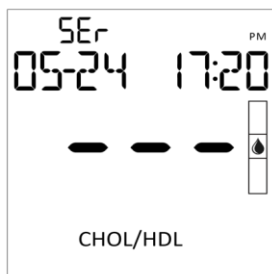

Fig 5.41
- The meter will begin testing automatically with three dashes in a line flashing on the LCD indicating the test is in progress. The test result will be displayed on the screen (Ref Fig 5.41).(Approx. 2 minutes)